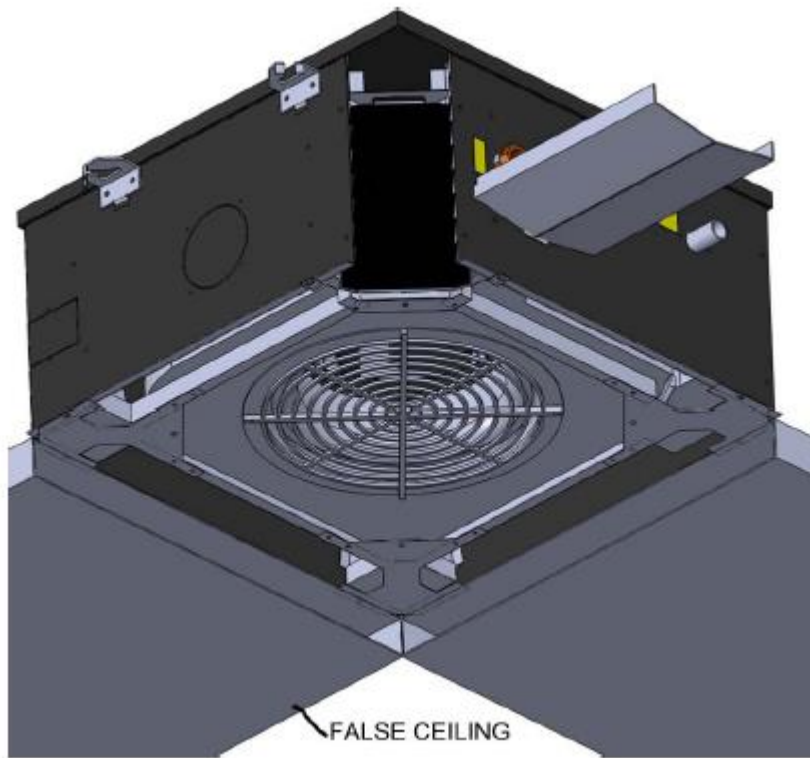
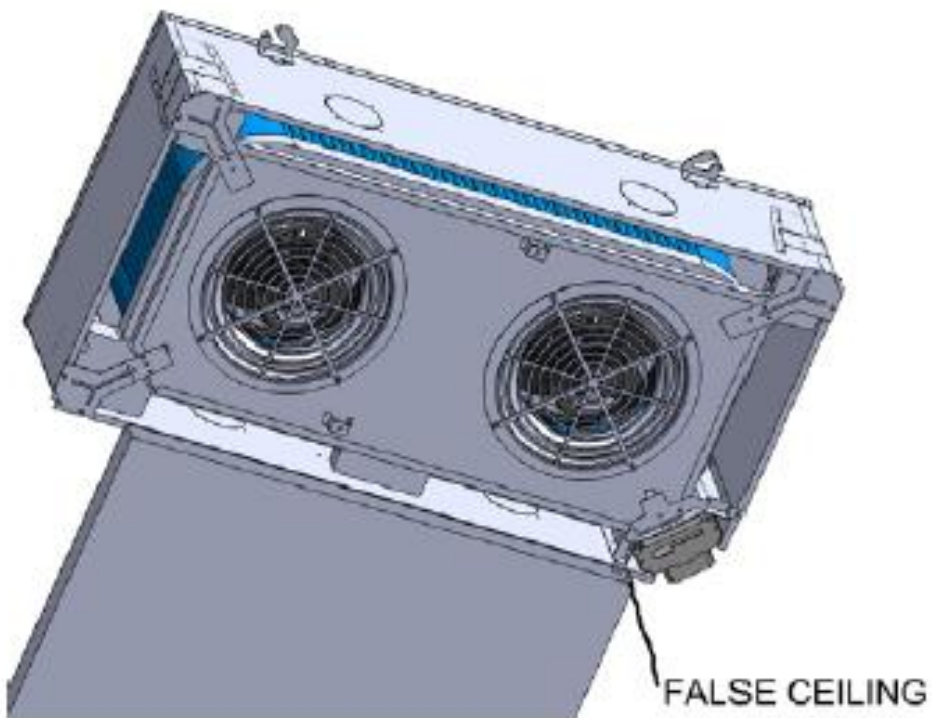

Figure 23
Figure 26
3. Using a level guide, line up the unit with a spirit level\_ to ensure an even distance between the body of the unit and the lower part of the false ceiling (Figure 23, Figure 26).